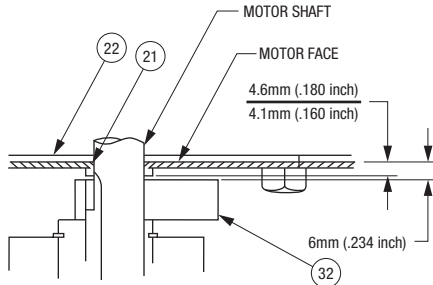

Figure A1 8
When reassembling the motor, refer to Figure A1 for the face seal seating dimension. Also, refer to this figure for setting the vertical position of counterweight (32).